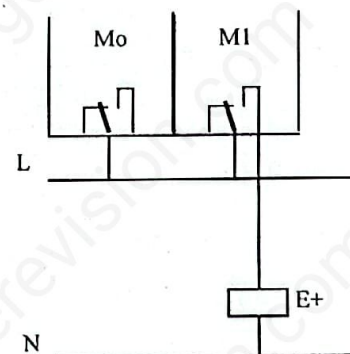

Figure 1: Uncompleted Power circuit
- Draw its power circuit by completing figure 1